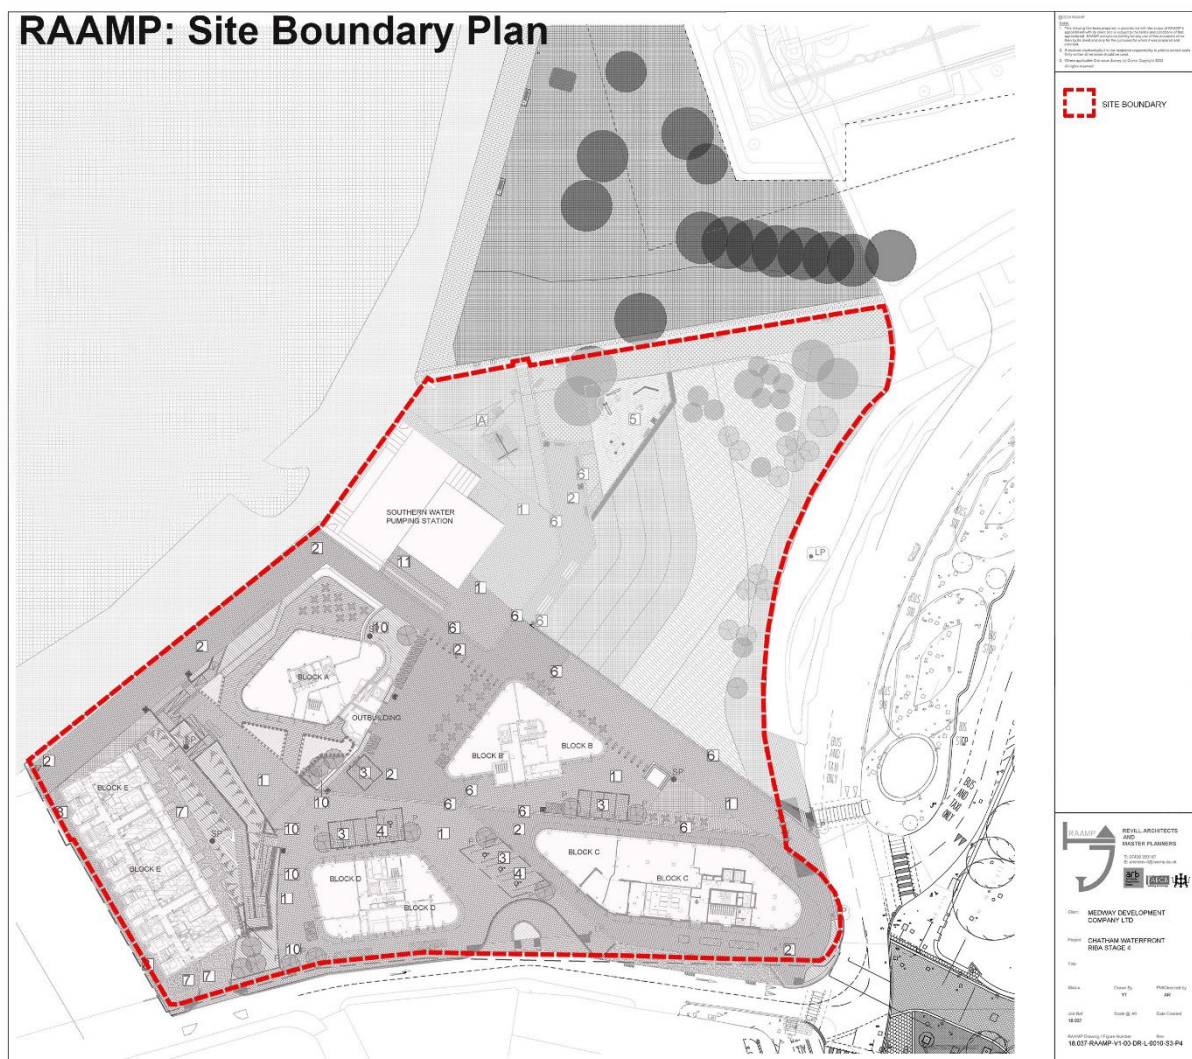

Figure 1 : SITE BOUNDARY PLAN
- 2.1 The document covers the landscape management of the proposed CWF development area, approximately 1.43 ha at Waterfront, Medway Street, Chatham ME4 4HA, Kent, which has been approved through full planning application, MC/18/3659 (31st December 2018). Site boundary is indicated below (Figure 1).